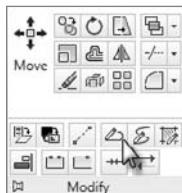

FIGURE 4.4 Starting the Edit Polyline command
3. Expand the Modify Ribbon panel found on the Home tab, and click Edit Polyline as shown in Figure 4.4. Command-line users can enter PEDIT to start the PEDIT command.